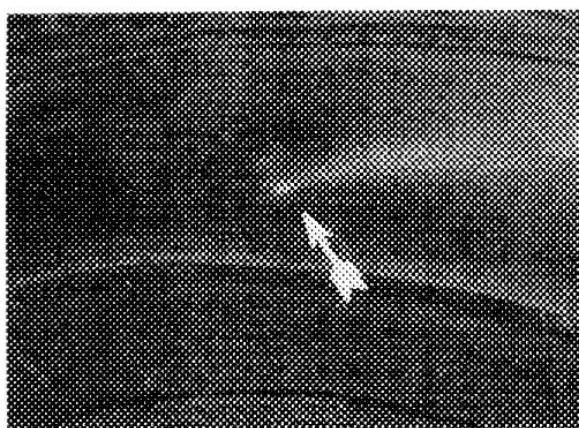

FIGURE 1
When removing a front or rear 02 sensor, material may remain on the internal threads of the exhaust tube, catalytic converter, or exhaust manifold. Special service tools (see Figure 1) are available to clean the internal threads in such cases. This will minimize the need to replace these components. These required special tools will be mailed separately.
2. Select the correct thread repair tool based on the thread diameter of the removed 02 sensor (see Figure 1).
4. Liberally apply the anti-seize compound, specified in the Parts Information section of this bulletin, into the flutes (see Figure 1) of the thread repair tool.
- ^ When only light removal of material is needed, screw the thread repair tool in until the cutting surface of the mating surface shave cylinder (see Figure 1) touches the sealing surface for the O2 sensor. Then turn it one full turn further.
A lifting of the rubber layer (i.e., portions of sidewall stock or white sidewall rubber) from the tire's sidewall structure, caused by lack of adhesion between the rubber and structure. This lifting will often "pocket" air (see Figure 1).